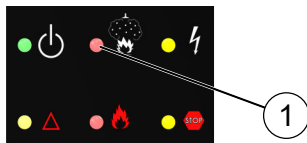

Fig. 25: "Extinguishing system triggered" LED
- 33. ▶ Check that the "Extinguishing system triggered" LED (Fig. 25/1) is not illuminated.